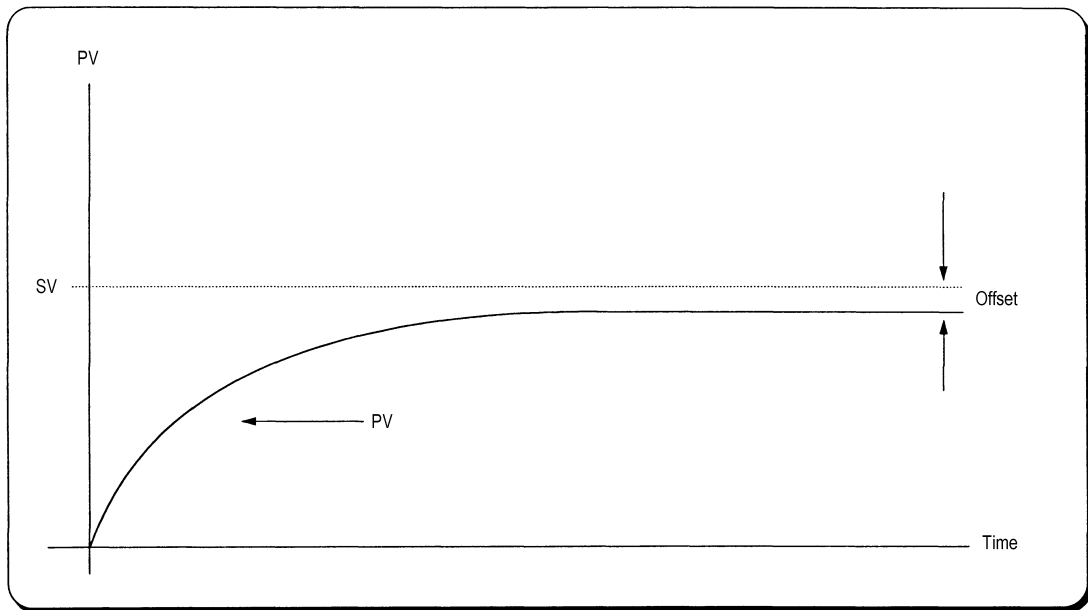

Fig. 2.3 When the proportional constant ( $K_p$ ) is small
- (e) If the  $Kp$  is too small, oscillation will not occur. However, the PV reaches to the SV slowly and an offset may appear between PV and SV shown in the Fig. 2.3.
- (f) The manipulation value (MV) varies from 0 to 4,000. User can define the maximum value of MV (MV\_MAX) and minimum value (MV\_MIN) within the range 0 ~ 4,000.